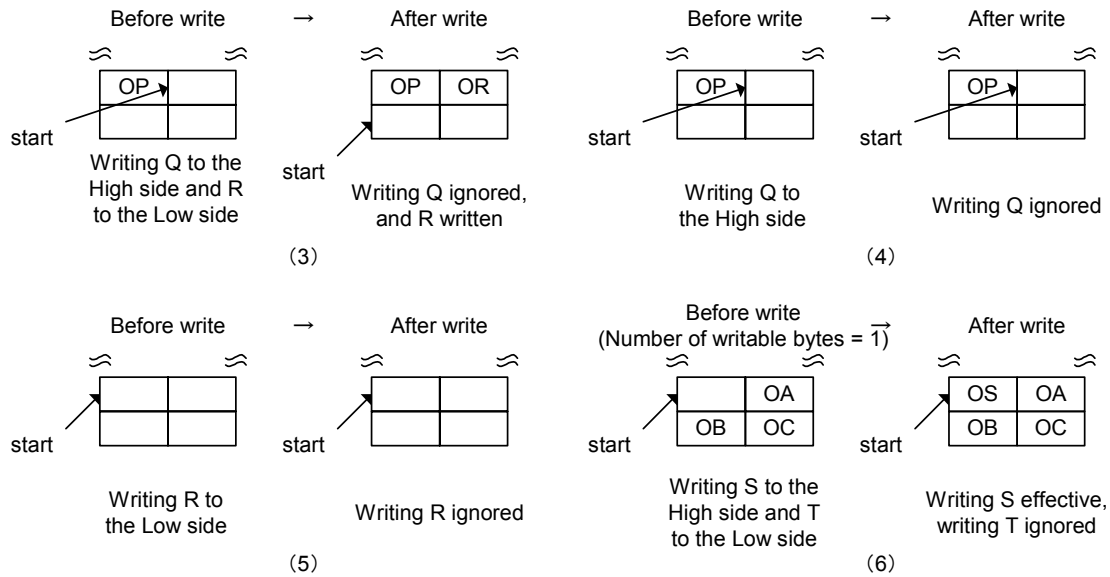

Figure 6-26 FIFO Write Processing (Operations Requiring Caution)
If data is written wordwise while the FIFO has a byte boundary in it, writing to the High side is ignored; data is written to only the Low side ((3) in Figure 6-26). This is the same as data being written to the Low side byte-wise. Furthermore, if data is written to only the High side while the FIFO has a byte boundary in it, the writing operation performed is ignored ((4) in Figure 6-26).
If data is written to only the Low side while the FIFO has no byte boundaries in it, the write operation performed is ignored ((5) in Figure 6-26). Furthermore, if data is written wordwise while the FIFO has no byte boundaries in it and the number of writable bytes is 1, writing to the Low side is ignored; data is written to only the High side ((6) in Figure 6-26). This is the same as data being written to the High side byte-wise.